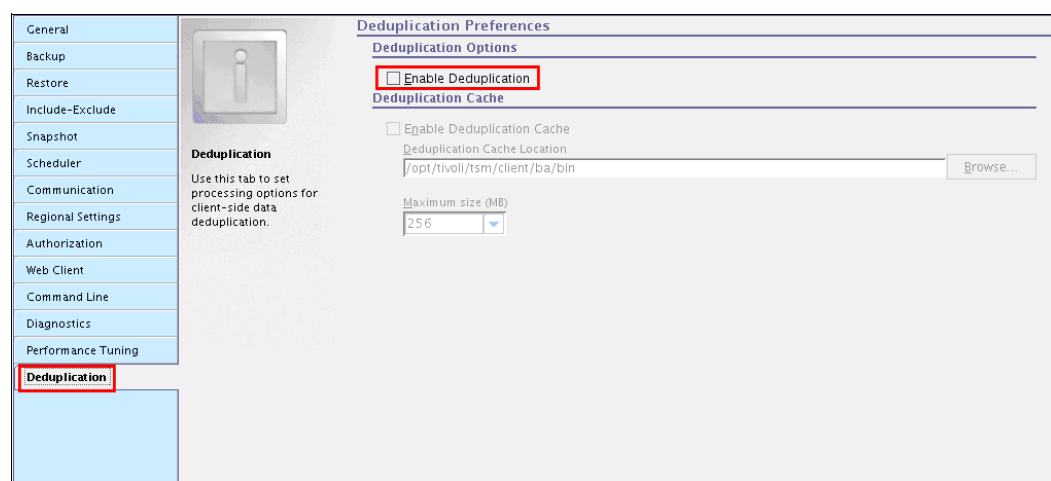

Figure 20-21 Deduplication Preferences window
2. From the menu at the left, choose **Deduplication** (Figure 20-21). The Deduplication Preferences window opens.